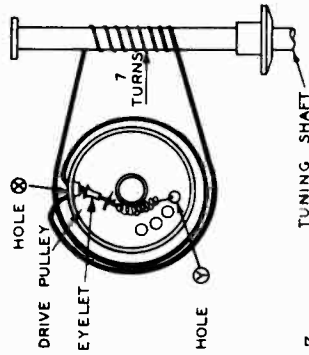

Fig. 3
6. In a clockwise direction, wind cord one full turn around drive pulley and up to tuning shaft. (See Fig. 3.)
7. Route cord 7 turns around tuning shaft as shown in Fig. 3 and down to drive pulley.